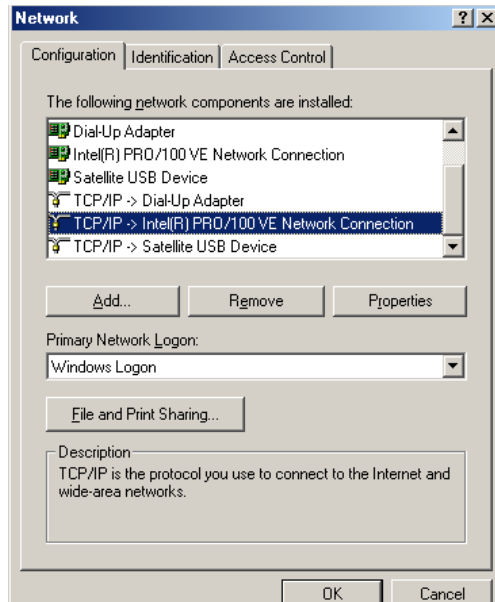

Figure 92: Network window
2. A list of network components will be displayed. See Figure 92.